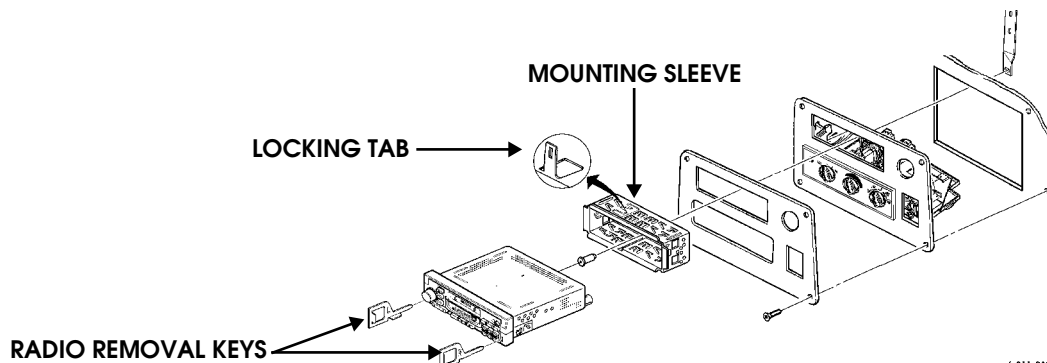

Figure 13-110: Radio Removal
4. If CD changer wire harness is to be replaced, radio must be removed to gain access to harness connection at the radio (Figure 13-110).